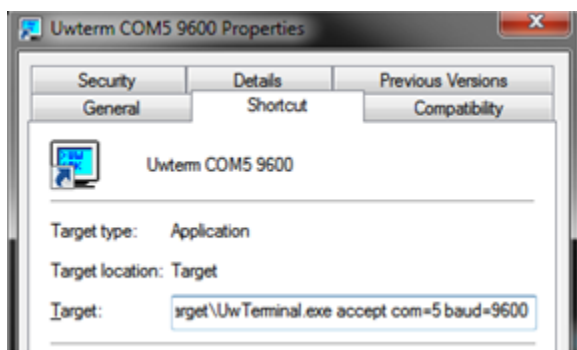

Figure 8: Shortcut properties
4. Edit the **Target** line to add the following commands (Figure 8):